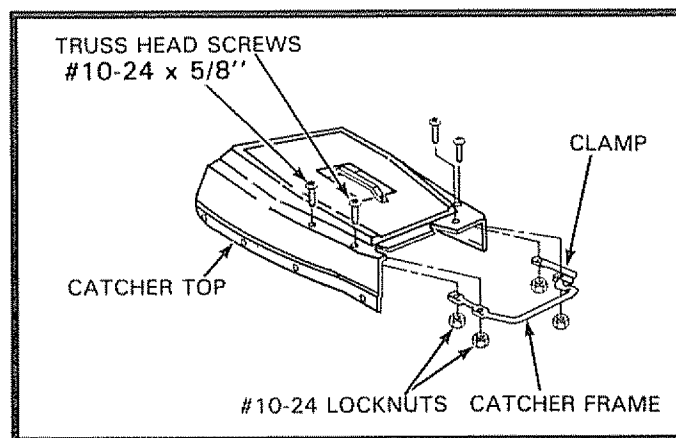

FIG. 2
- Place grass catcher frame into catcher top as shown in Fig. 2.
- Put one (1) #10-24 x 5/8 truss head screw into hole in catcher top and catcher frame using #10-24 locknut. **DO NOT TIGHTEN** (See Fig. 2).
- Put three (3) #10-24 x 5/8 truss head screws into the catcher frame using #10-24 locknuts. Use a medium phillips screwdriver to tighten screws while holding the locknut with an adjustable or 3/8 wrench (See Fig. 2).